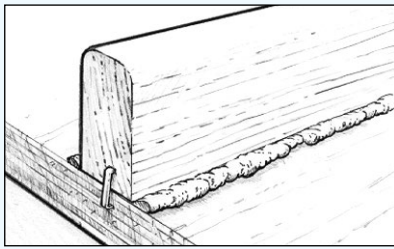

Figure 11 Clamp components in place before the epoxy gels.
3. Clamp components. Attach clamps as necessary to hold the components in place. Use only enough clamping pressure to squeeze a small amount of the thickened mix from the joint, indicating that the epoxy is making good contact with both mating surfaces (*Figure 11*). Do not squeeze all the thickened mix from the joint by using too much clamping pressure.